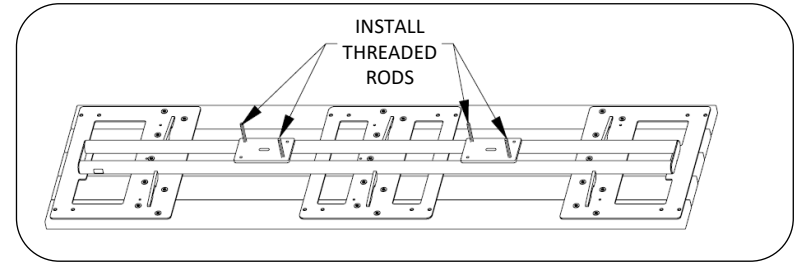

Fig. 1 – Threaded rod locations
2. Install threaded rods in bottom plates as shown in Fig. 1. Install 2 per plate, in opposite corners of plate. Verify location of threaded rods matches orientation of holes in concrete block base